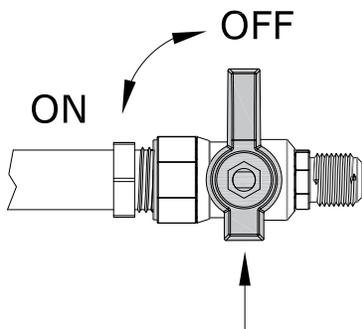

Figure 7.13 - Turn Off Gas
1. Disconnect the electrical power of the fireplace. Locate the main shut-off valve upstream of the appliance connector and close the valve. Figure 7.13.